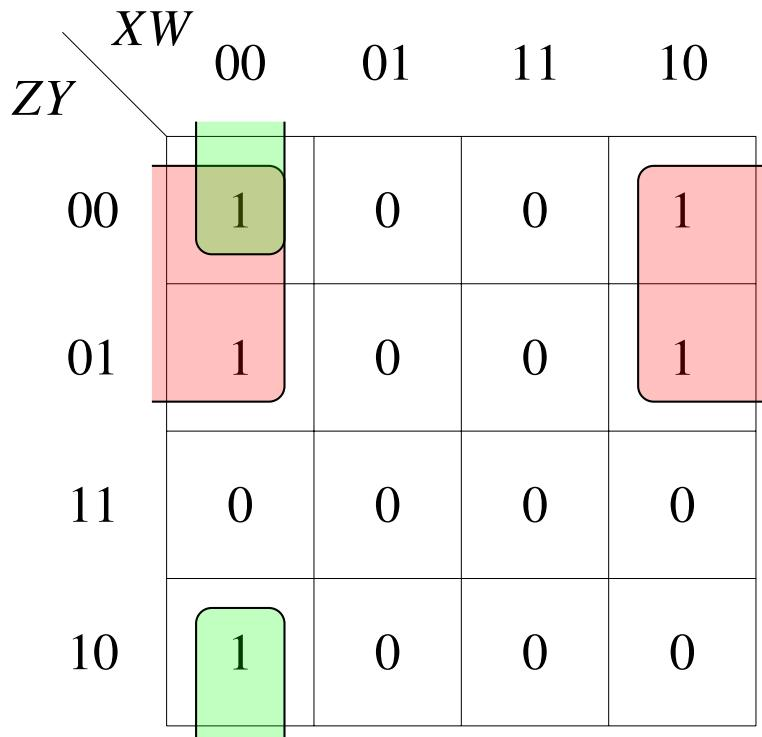

Fig. 4.1: K-map for A
3. K-Map for A : The expression in (4.1) can be minimized using the K-map in Fig 4.1. In Fig 4.1, the *implicants* in boxes 0,2,4,6 result in $W'Z'$. The implicants in boxes 0,8 result in $W'X'Y'$. Thus, after minimization using Fig 4.2, (4.1) can be expressed as